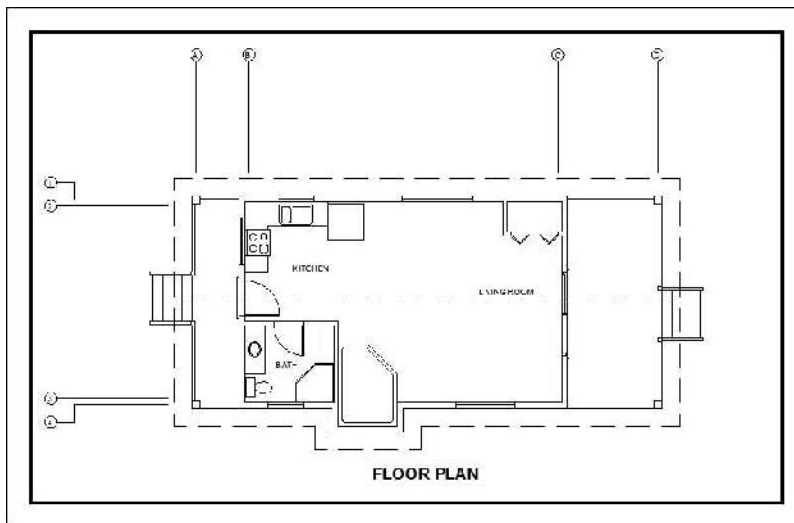

FIGURE 8.42: The drawing with its border
16. Use Zoom Extents, and then zoom out a little to create a view in which the drawing with its border nearly fills the screen (see Figure 8.42).